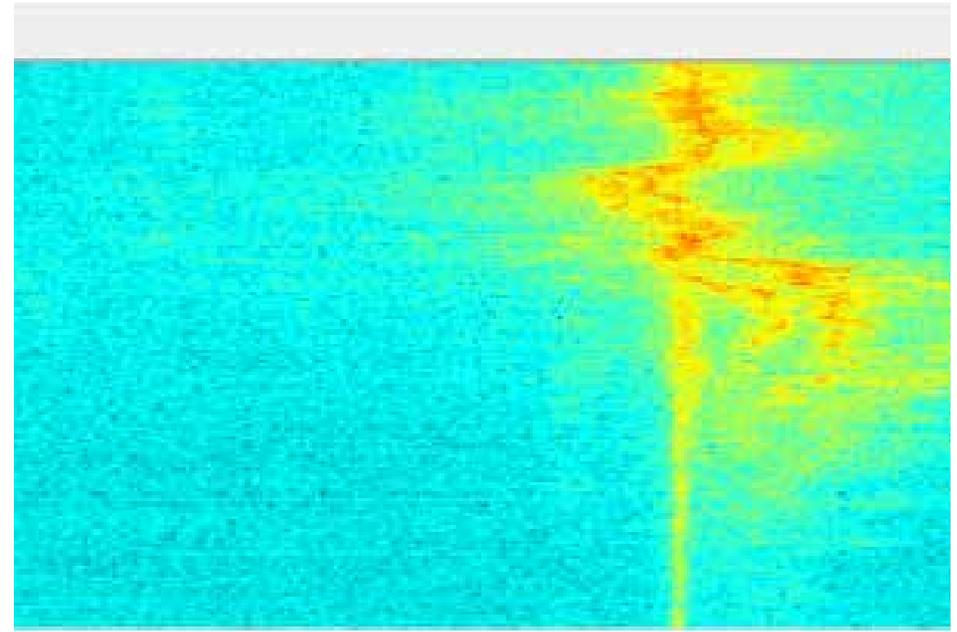

Figure 9. Observing 5 MHz WWV Doppler shift at sunrise (Feb. 26, 2021).
- The two QT GUI Waterfall Sink blocks provide a waterfall output. Here, we are showing how movement of the ionosphere causes a Doppler shift in the frequency of WWV as the sun goes down. (This assumes your FlexRadio uses a GPS Disciplined Oscillator as its 10 MHz master clock). This technique is so sensitive that you can even observe WWV Doppler shifts caused by solar flares, transient ionospheric disturbances, and the polar vortex. Figure 9 shows an example waterfall produced by the QT GUI Waterfall Sink on the lower right of the flowgraph. This particular one is from a Grape monitoring 5 MHz; I chose it here due to its dramatic illustration of sunrise effect on WWV frequency. You can produce similar waterfalls using